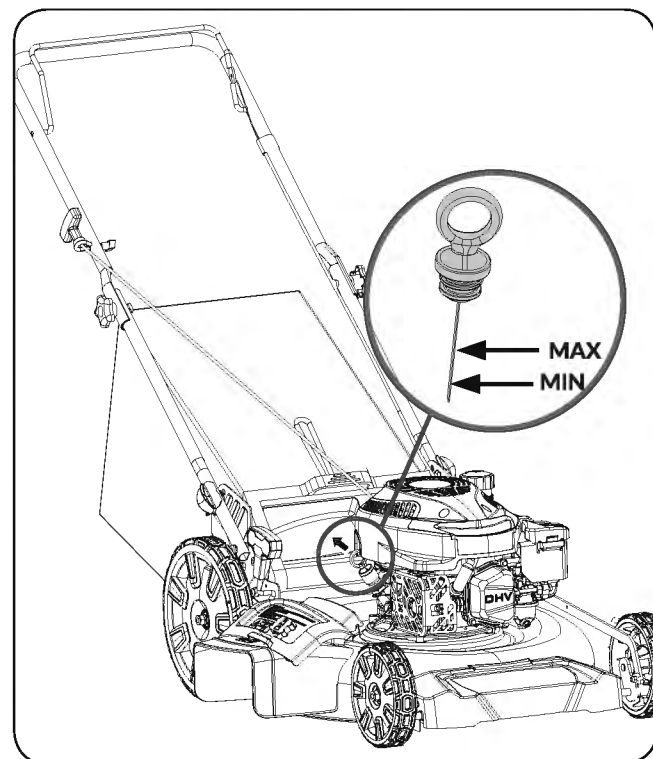

Figure 15
- Remove the dipstick by rotating the cap counterclockwise and pulling it out. (See **Figure 15**)
10. Read the oil level on the dipstick. (See **Figure 15**)